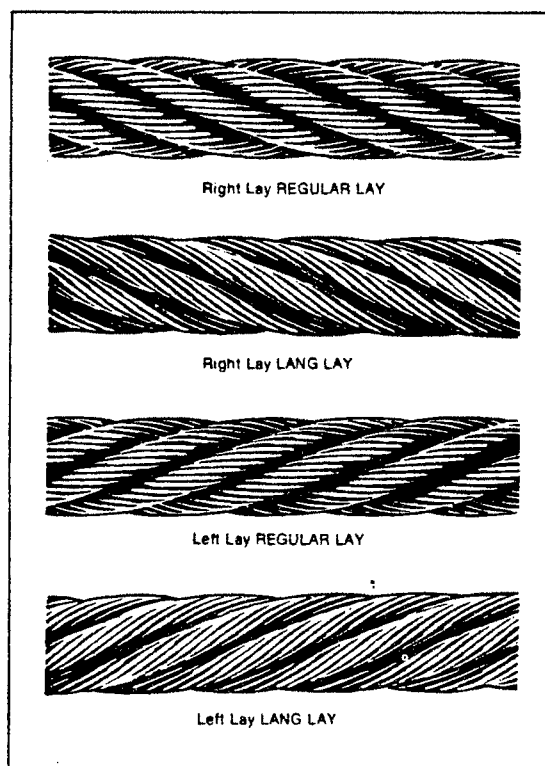

Fig. 2-6 Rope lays
- b. Fiber cores are simply small diameter fiber ropes. Most fiber cores (FC) are made of polypropylene. A fiber core provides maximum flexibility and elasticity to the wire rope structure. However, fiber cores are susceptible to crushing due to their relative softness.
- a. Plow steel (PS): lowest break strength, lowest resistance to wear, highest fatigue life.
- a. The direction of twist of the strands in the rope determines if the rope will be right or left lay. The lay of a rope has three different meanings. The lay could be the direction of twist of the wires in a rope, the direction of twist of the strands in a rope or a length along a rope. When looking at a wire rope (See **Figure 2-6**), if the wires appear to run along the length of the rope it is known as regular lay. If the wires look as if they are running across the rope it is known as lang lay. All Coast Guard ropes are regular lay.
- (1) **Right-regular lay:** The individual wires of the strand are laid up to the left and the strands are laid up to the right. Regular lay ropes are less likely to be kinked, and give additional resistance to crushing, distortion and rotation.
- (2) **Right-lang Lay:** Both the wires of the strands and the strands are laid up to the right. Lang lay rope gives increased wearing surface for certain types of service resulting in longer life for the rope. Lang lay rope offers greater flexibility but has a tendency to crush and untwist. It should not be used with a swivel or in a single part hoist.
- (3) **Left-regular lay:** This lay is the opposite of Right-Regular Lay above.
- (4) **Left-lang lay:** This lay is the opposite of Right-Lang Lay above.
- (5) **Reverse lay:** The strands are laid up to the right and the individual wires of the strands are laid up to the right and left alternately. Reverse lay ropes